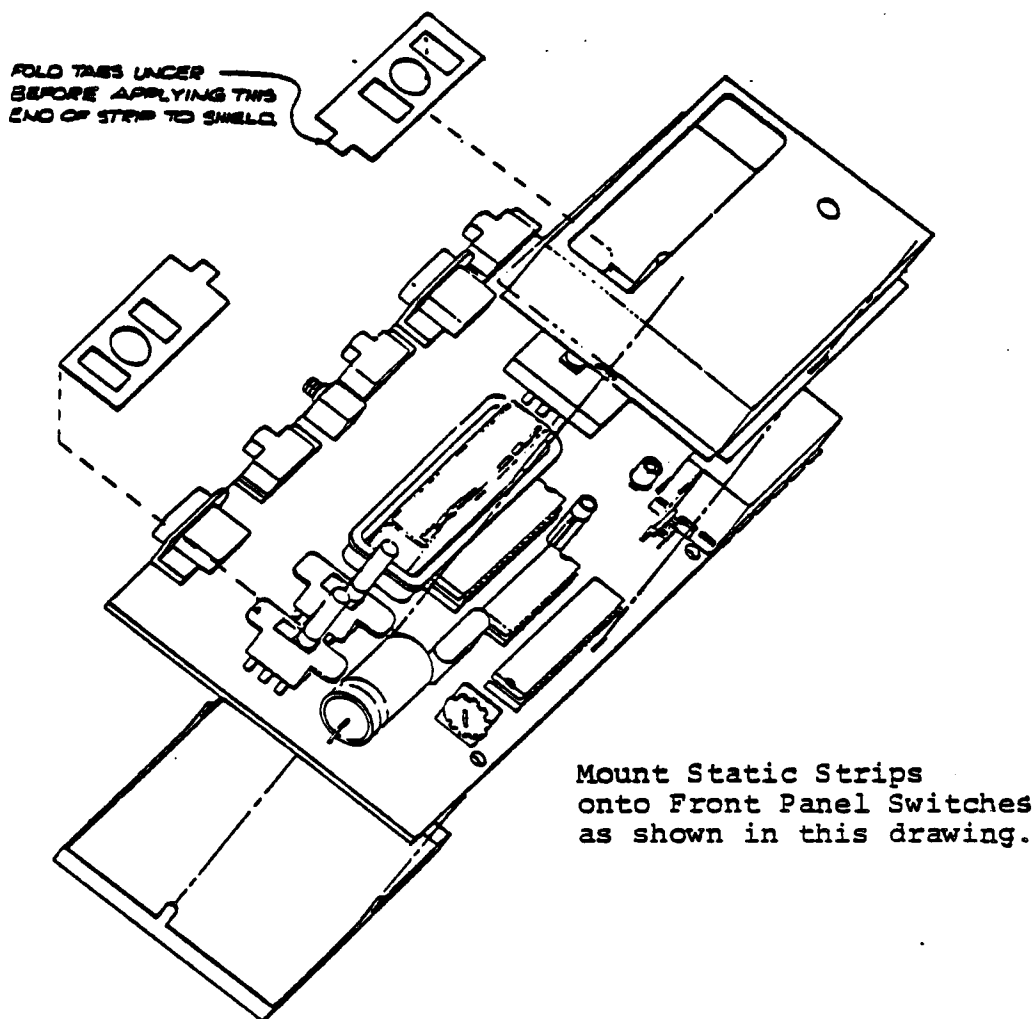

Figure 3-5. 2600A (Revs. 1-13) Static Modifications
- Each 2600A (Revs 1-13) model must have static strips placed on the front panel switches (See Figure 3-5).